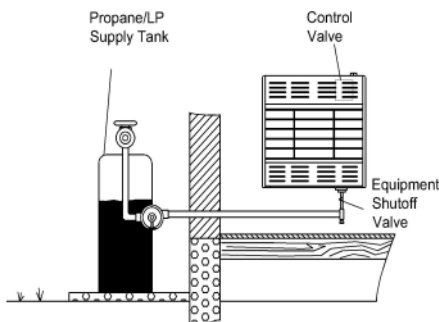

Figure 16 - Checking Gas Joints
3. Check all joints from propane/LP supply tank to equipment shutoff valve (see Figure 16). Apply mixture of liquid soap and water to gas joints. Bubbles forming show a leak.
4. Check all joints from equipment shutoff valve to control valve (see Figure 16). Apply mixture of liquid soap and water to gas joints. Bubbles forming show a leak.